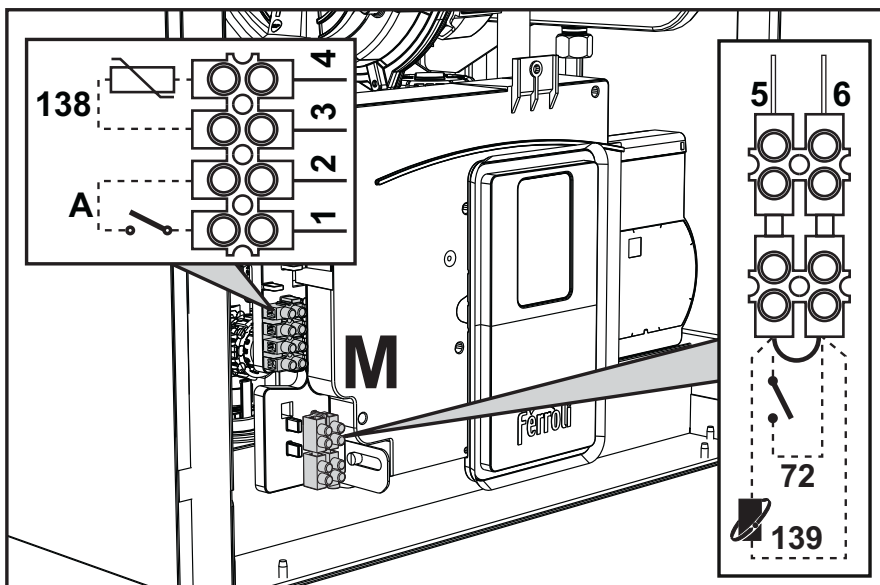

fig. 29
After removing the front panel (*** 'Opening the front panel' on page 331 ***) it is possible to access the terminal blocks (M) and the fuse (F) following the directions given below (fig. 29). **The terminals indicated in fig. 29 must be with voltage-free contacts (not 230V).** The arrangement of the terminals for the various connections is also given in the wiring diagram in fig. 66.
ON/OFF (A fig. 29) configuration